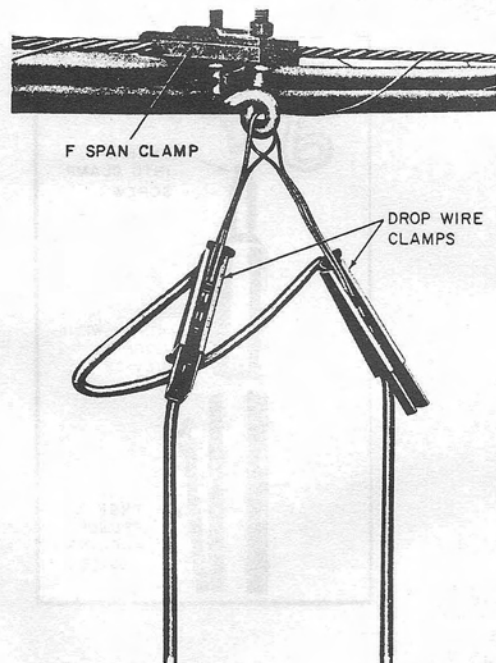

Fig. 28—F Span Clamp Installed on Strand
- (7) Rest the F span clamp on the strand. Walk forward slowly until the opening of the F span clamp engages the strand. Make certain the strand is still engaged and slowly rotate the tree pruner handles to lock the span clamp on the suspension strand. Tighten the F span clamp securely.
- (8) Disengage the B clamp wrench from the span clamp assembly by providing a sharp reverse twisting motion on the tree pruner handle to unseat the wrench. Once loosened, unscrew the wrench completely from the clamp screw, leaving the span clamp installed on the strand as illustrated in Fig. 28.